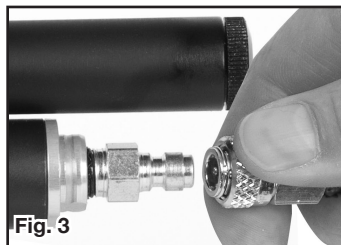

Fig. 3
- Connect the quick-disconnect fitting on the hand pump hose to the fill nipple (fig. 3.) by
- Connect the quick-disconnect fitting on the adaptor's hose to the fill nipple (fig. 3).